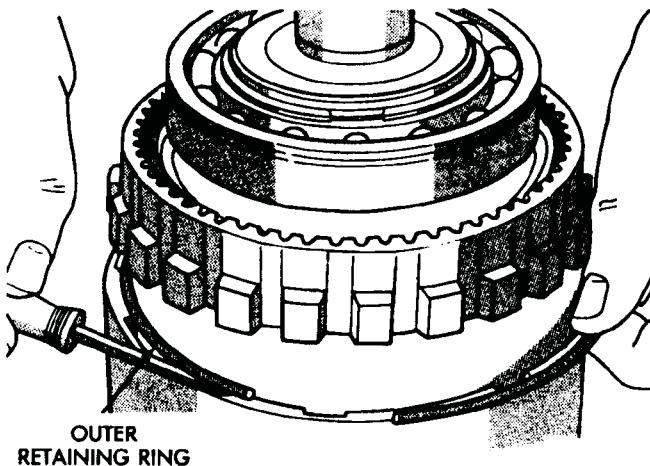

Fig. 31 Clutch Drum Outer Retaining Ring Removal
- (21) Remove direct clutch drum outer retaining ring (Fig. 31).